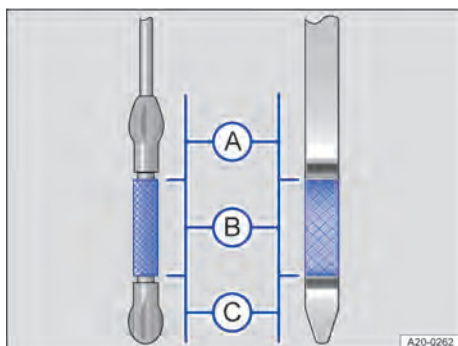

Fig. 198 Oil dipsticks with engine oil level markings (variants).
7. Pull out the oil dipstick again and read the engine oil level on the dipstick as follows → Fig. 198:
- Ⓐ Engine oil level too high. Observe the messages on the instrument cluster display or seek expert assistance as necessary → ①.
12. Read the engine oil level from the dipstick again before refilling with a further small quantity of engine oil. Never overfill with engine oil → ①.
13. After filling, the engine oil level should be in the middle of the area → Fig. 198 Ⓑ. The engine oil level must not be in area → Fig. 198 Ⓐ → ①.
14. If too much engine oil has been added unintentionally and the engine oil level is in area → Fig. 198 Ⓐ, do not start the engine. Seek expert assistance.
- If the engine oil level is in area → Fig. 198 Ⓐ, do not start the engine. Seek expert assistance.